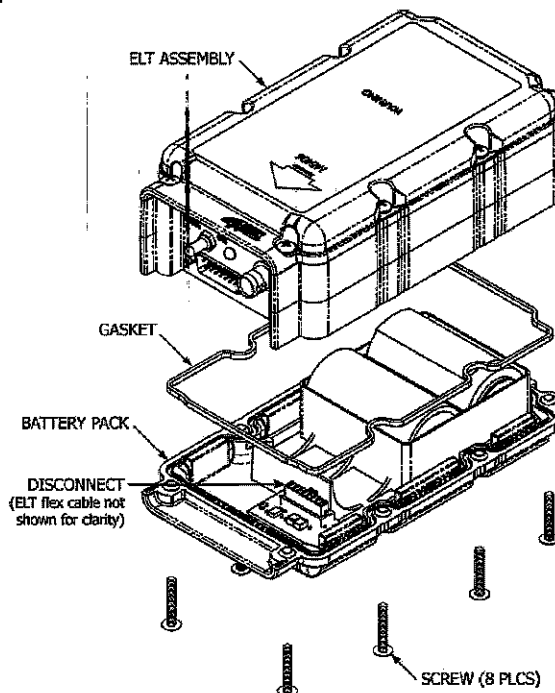

Figure 13 Battery Pack Removal
- 1) See Figure 13 Battery Pack Removal.